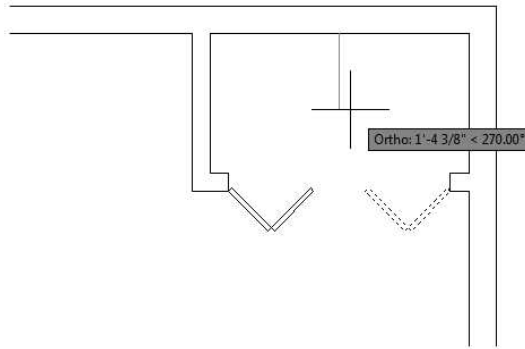

FIGURE 4.76: The closet door is complete.
15. Then move the cursor downward to mirror the existing panels directly to the left, as shown in Figure 4.76.